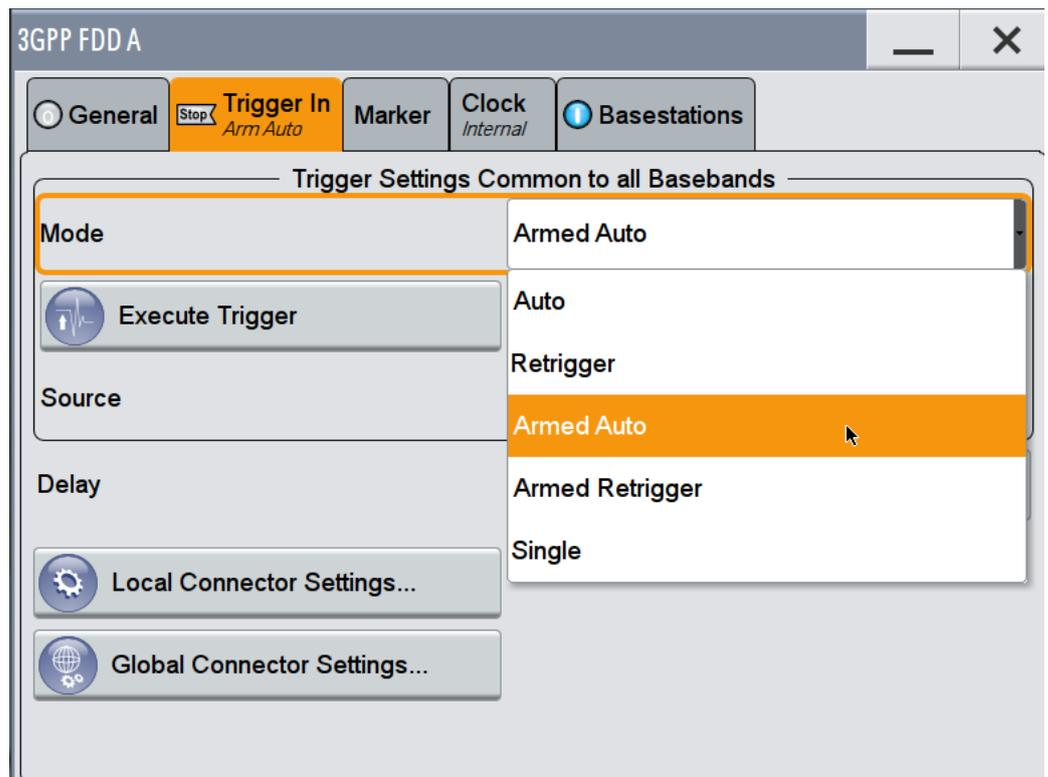

Fig. 3-3: SMW: Select trigger mode. Select armed auto for external trigger
- Go to **Trigger In** section. Select trigger **Mode** from the list. (Fig. 3-3)